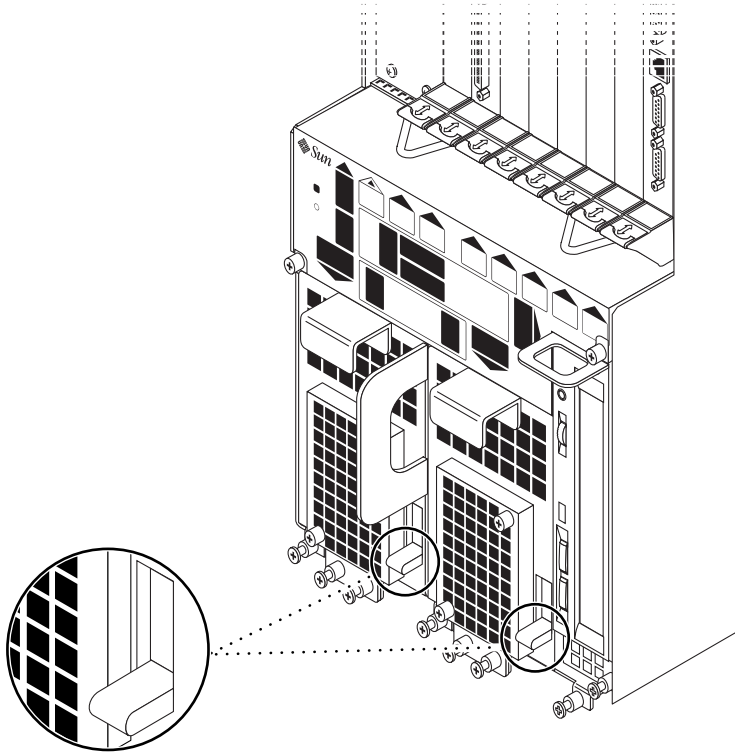
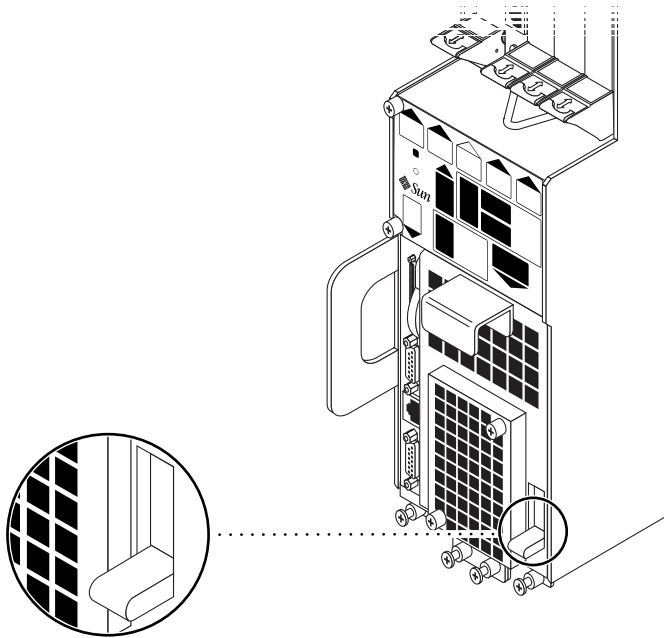

FIGURE 2-1 Locating the Power Supply Locking Mechanism on the Netra ct 800 Server
FIGURE 2-2 Locating the Power Supply Locking Mechanism on the Netra ct 400 Server
FIGURE 2-1 shows the location of the two power supply locking mechanisms on the Netra ct 800 server, and FIGURE 2-2 shows the location of the single power supply locking mechanism on the Netra ct 400 server. Make sure you lock *both* power supplies if you are powering on a Netra ct 800 server.
6. If you want to completely power off the Netra ct server, push the purple power supply unit locking mechanism(s) up into the unlocked (Ⓛ) position (see FIGURE 2-1 on page 2-2 for the Netra ct 800 server or FIGURE 2-2 on page 2-3 for the Netra ct 400 server).
7. **If you want to completely power off the Netra ct server, push the purple power supply unit locking mechanism(s) up into the unlocked (⏏) position (see FIGURE 2-1 on page 2-2 for the Netra ct 800 server or FIGURE 2-2 on page 2-3 for the Netra ct 400 server).**